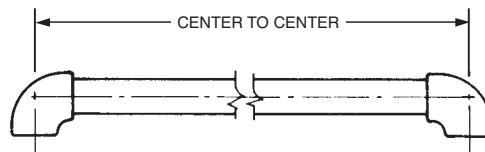

FIGURE 105
- 5. Pipe lengths are measured from center of fitting to center of fitting. See Figure 105.